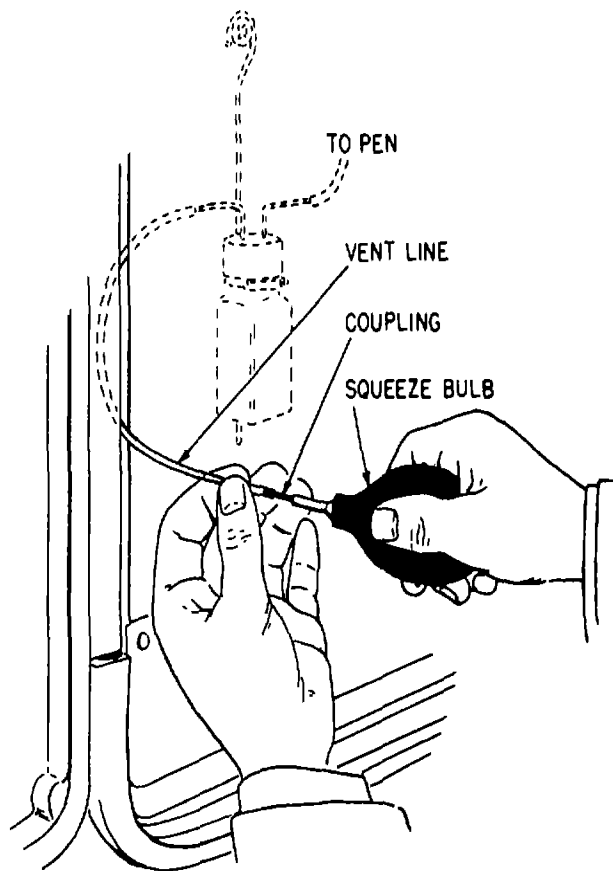

Fig. 2
4. See Fig. 2. Pressurize the ink supply of each pen by introducing air into the vent lines by means of a squeeze bulb. Pressurize slowly until a drop of ink, free of any air bubbles, is expelled from each pen tip.